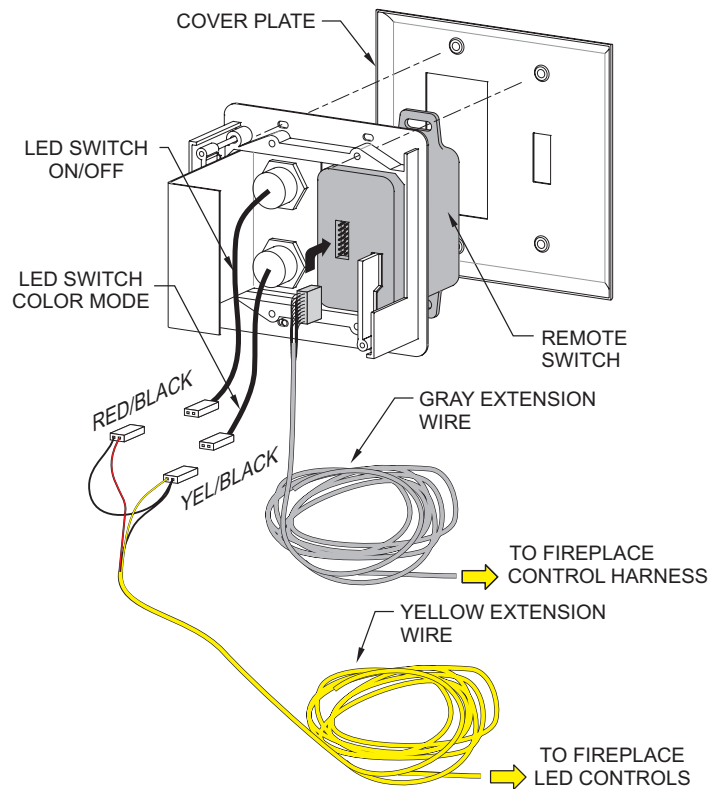

Figure 43
12. Route the yellow LED wire harness with a gray remote receiver harness through the bushing. Mount the controls and connect the wiring. See Figure 43.